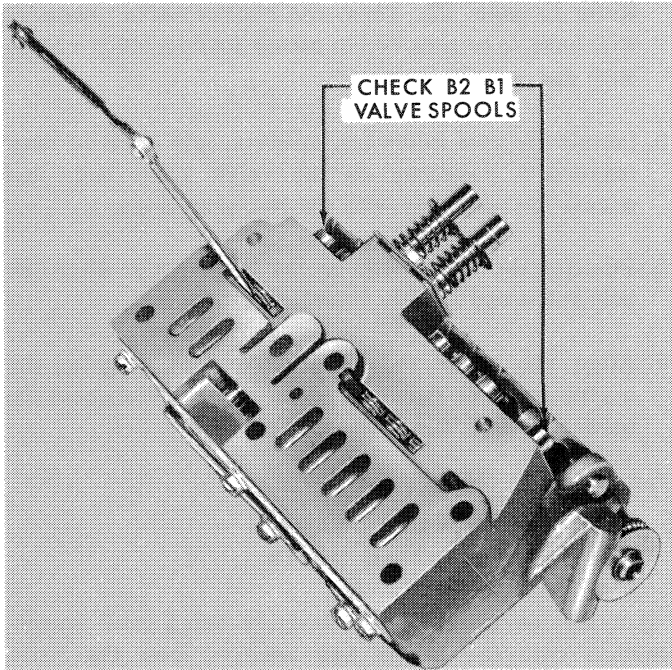

Figure 81
3. Insert a feeler gauge between the B2 and B1 spool lands and the side of the discharge ports in the lower valve body, as shown in Figure 81. The bodies should be positioned so that a clearance of $.057'' \pm .010''$ is obtained. Tighten the securing bolts to 6–8 ft. lbs. torque.